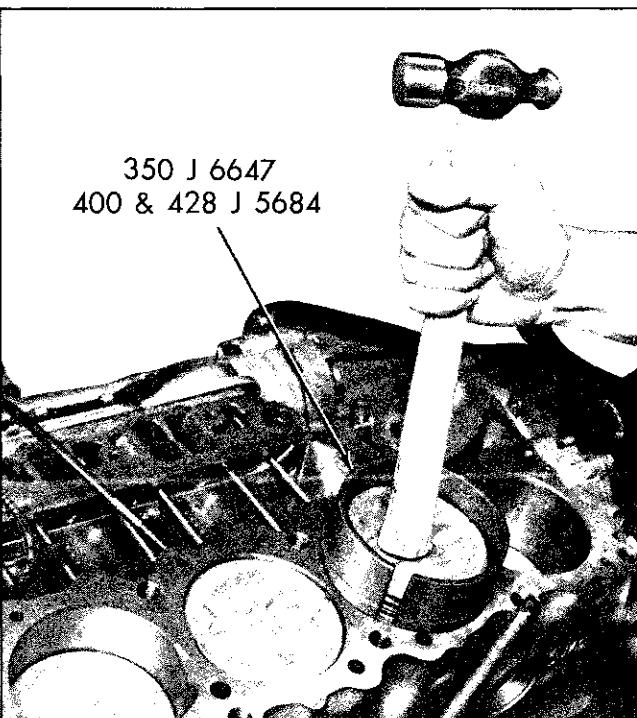
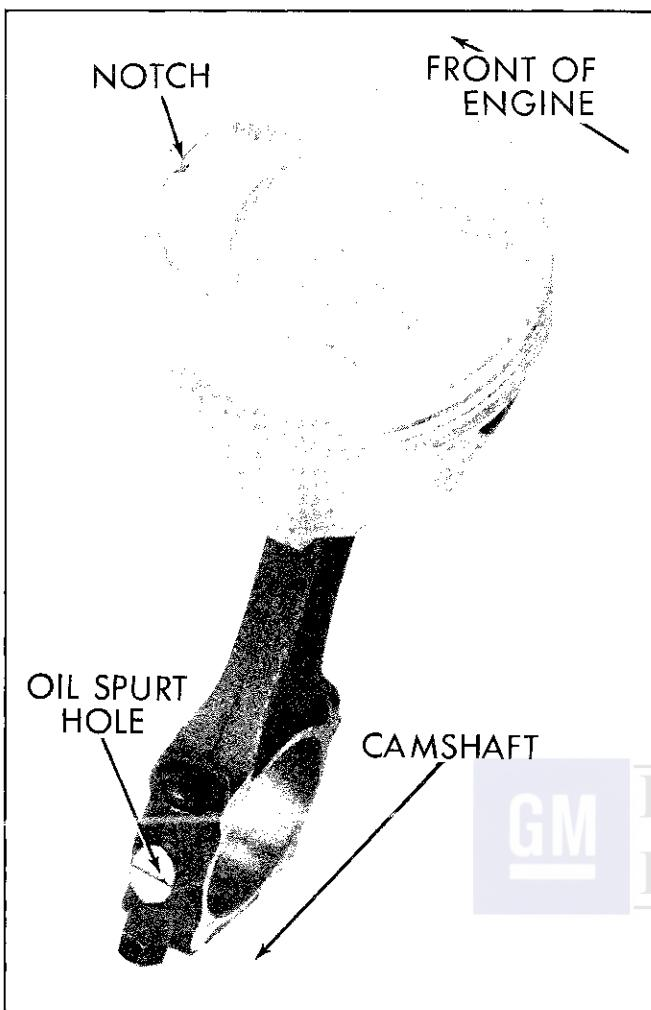

Fig. 6-114 Installing Piston Assembly
Fig. 6-121 Piston and Rod Assembly
2. Using J 6647 or J 5684 (Fig. 6-114) ring compressor, insert piston and connecting rod assembly into cylinder so that notch in top of piston is toward front of engine. Be certain oil spurt hole (Fig. 6-121) in connecting rod is toward camshaft.
There is a notch cast in the top of all piston heads to facilitate proper installation. The piston assemblies should always be installed with notch toward front of engine. Position rod in piston so that oil squirt hole (Fig. 6-121) is toward camshaft.